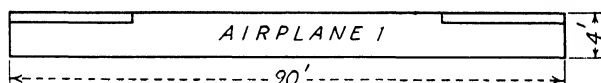

Fig. 158.
Figures 158 and 159 show how a wing area of 360 sq. ft. might be arranged:
Find the aspect ratio of airplane 1 in Fig. 158.
1. Complete the following table from the data supplied in Figs. 158 and 159.